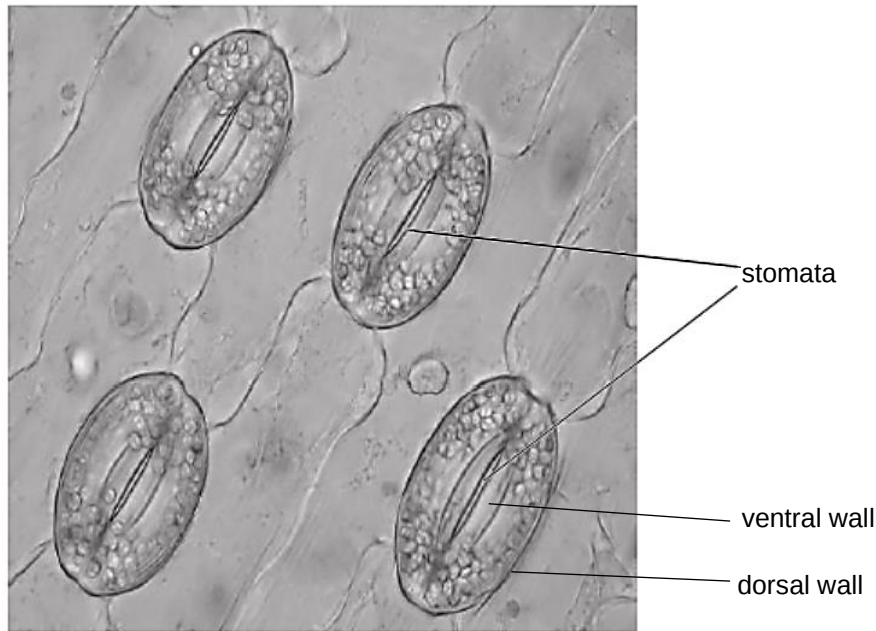
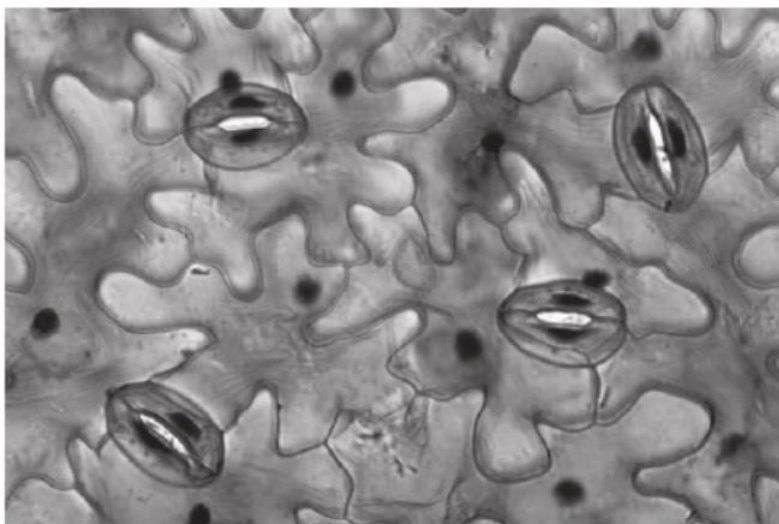

Fig. 2.3
Fig. 2.4
- (c) Fig. 2.3 is a photomicrograph showing part of a leaf surface.
The actual area of the photomicrograph in Fig. 2.3 is 0.04 mm^2 .
The leaf from which Fig. 2.3 is taken has a total surface area of 20 cm^2 .
- (i) Use Fig. 2.3 to estimate the total number of stomata on the leaf.
(iii) Fig. 2.4 is a photomicrograph showing part of a leaf surface of a different type of plant.
Fig. 2.3 and Fig. 2.4 have the same magnification.
Identify the observable differences between the leaf surface shown in Fig. 2.3 and the leaf surface shown in Fig. 2.4.
- the ventral wall of a guard cell is thicker than the dorsal wall, as shown in Fig. 2.3,